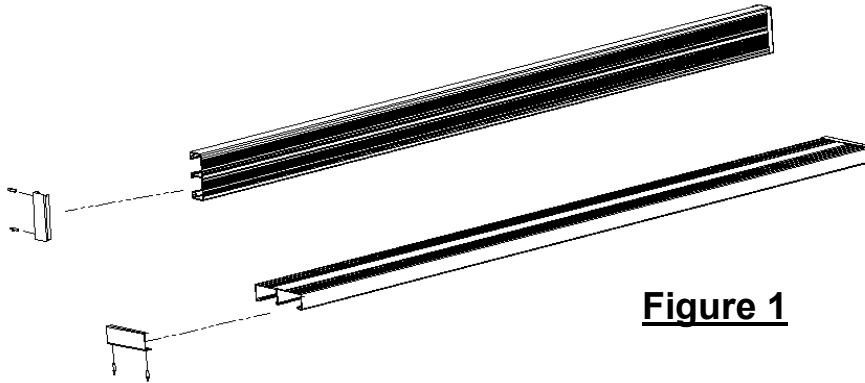

Figure 1
- A. Drill 3/16" diameter holes through 9 1/2" bench and 6" backrest using predrilled holes in end cap as guide, 2 per end cap. **See Figure 1**